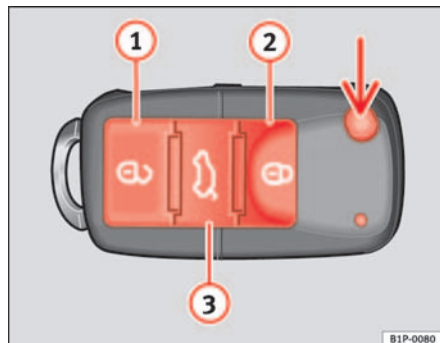
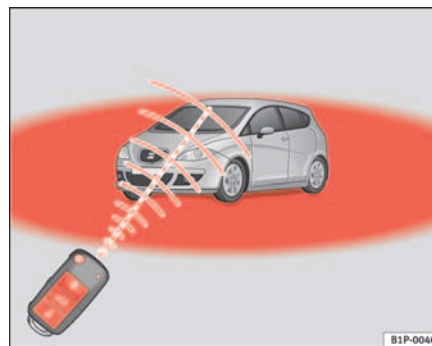

Fig. 64 Assignment of buttons on the remote control key
Fig. 65 Range of the remote control
Using the button $\Rightarrow$ fig. 64 (arrow) on the control, the key shaft is released.
Unlocking the vehicle $\Rightarrow$ fig. 64 ①.
Locking the vehicle $\Rightarrow$ fig. 64 ②.
Unlocking the tailgate. Press the button $\Rightarrow$ fig. 64 ③ until all indicators on the vehicle briefly flash. When the unlocking button $\Rightarrow$ fig. 64 ③ is pressed, 2 minutes remain for opening the door. Once this time has passed, it will lock once more.
Also, the battery indicator on the key $\Rightarrow$ fig. 64, will flash.
When the button $\Rightarrow$ fig. 64 ① is used the driver's door is unlocked, all others remain locked.
Press the button $\Rightarrow$ fig. 64 ① twice to unlock all doors.
- The remote control functions only when you are in range ⇒ page 98, fig. 65 (red area).
- If the vehicle is unlocked using the  ① button, the vehicle will be locked again automatically if any of the doors or the tailgate are not opened within 30 seconds of unlocking the vehicle. This function prevents the vehicle from remaining unlocked if the unlocking button is pressed by mistake.
- Use both keys that have been delivered with the vehicle; the key with the remote and the normal key ⇒ page 98, fig. 64 ⇒ page 98, fig. 65.
- Lock the vehicle from the driver side door lock using the key with the remote control ⇒ page 98, fig. 64 ⇒ page 98, fig. 65.